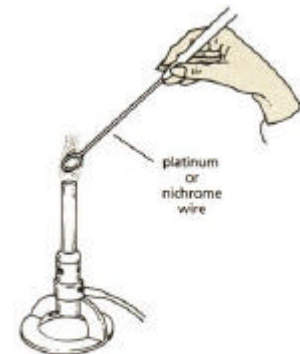

figure 1
4. Dip the clean wire loop into one of the nitrate solutions. Place the loop in the outer edge of the burner flame and move the loop up and down as in figure aside. (figure 1). Note the color in the flame. Record your observations in the data list provided.